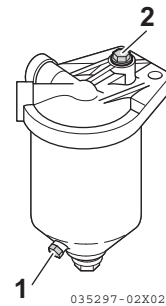

Figure 7
2. Loosen the drain plug (**Figure 7, (1)**) of the water separator and drain off any water or dirt collected inside. Dispose of the collected water and dirt properly.
3. After draining, tighten the air bleed screw (**Figure 7, (2)**).